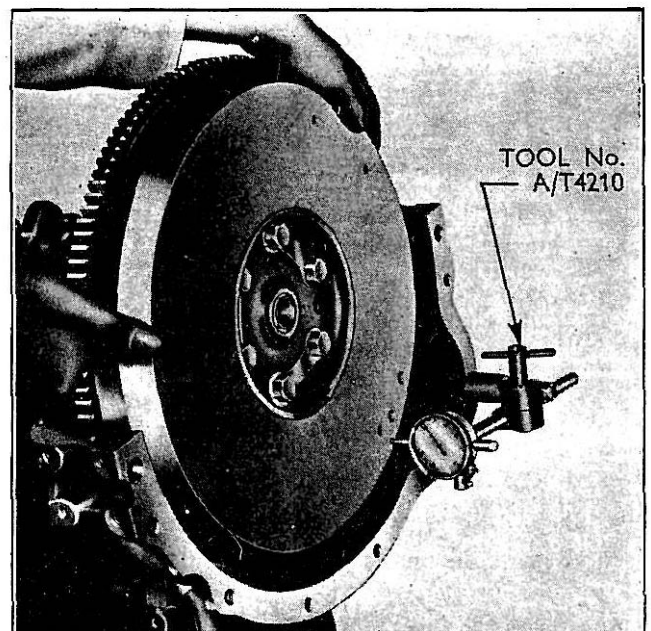

Fig. 78
- 4 It is essential that the flywheel runs true, as dirt, etc., between the mating flange faces could cause it to run out of balance, with consequent difficulties. The clutch thrust face and flywheel rim should be tested with a dial indicator, when the "run-out" (total indicator reading) should not exceed .005 in. (See Fig. 78.)